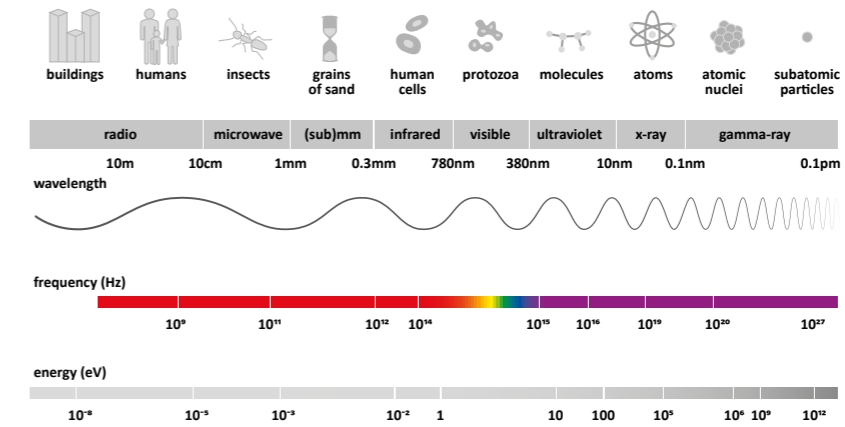

Figure 7 : Wavelength vs. Frequency
- 7** **A wave is a combination of electric field and magnetic fields.** A electromagnetic wave is composed of a magnetic part depending on the electric current (ampere), and an electrical section, depending on the electrical voltage (volts). Near the source (near-field) the magnetic part is dominant. At a greater distance, the electrical part and the magnetic part are present in a fixed ratio (far field). (Fig. 7)